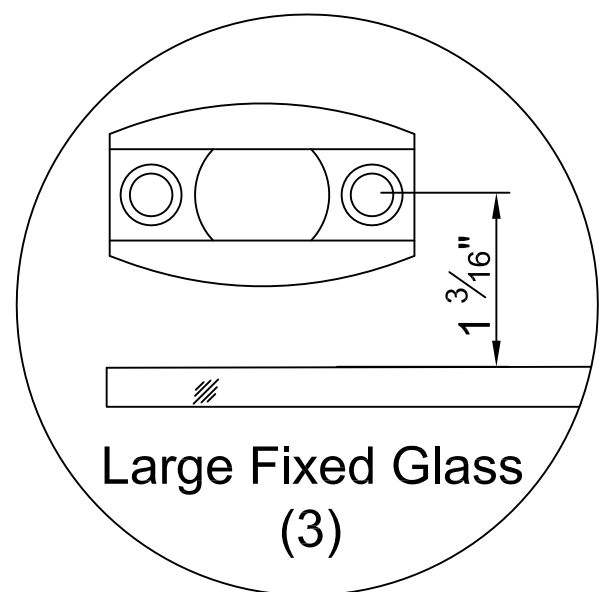

Fig.17
17. Position the Sliding Door Track Divider (8) into position as seen in Fig.17 and mark the 2 shower base hole positions.
**Note:** In Fig.17 the hole locations for attaching sliding door track divider should be  $1 \frac{3}{16}$ " from edge of Large Fixed Glass (3).
See Fig.17 for details.